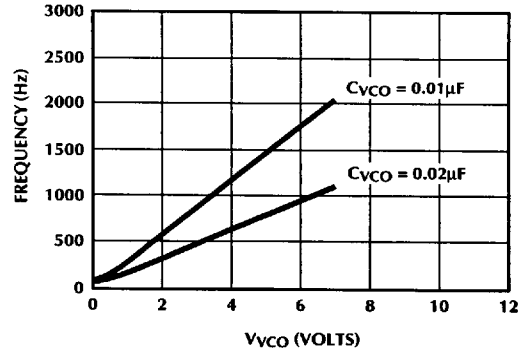

Figure 3. VCO Output Frequency vs.  $V_{VCO}$  (Pin 20)
**Run:** When the motor speed reaches about 100 RPM, the back-EMF loop can be used in closed loop speed control and the voltage on the RCVCO pin will ramp to the same voltage applied to VSPEED. This allows speed selection referring to figure 3.